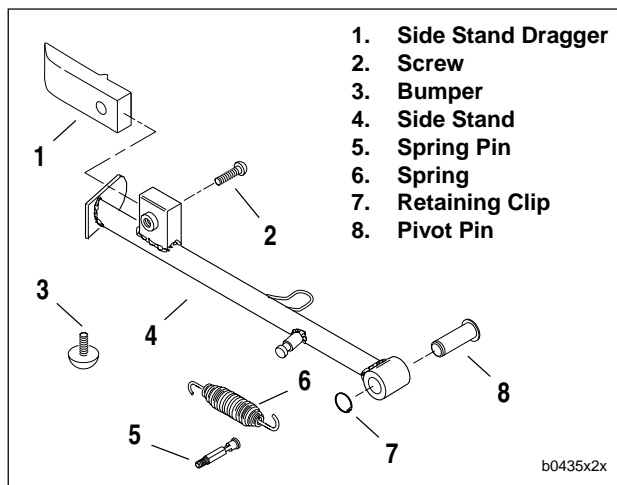

Figure 2-120. Side Stand
2. See Figure 2-120. Remove spring (6) from side stand and spring pin (5).
3. Remove retaining clip (7) and pivot pin (8). Detach side stand from frame.
4. Remove bumper (3) from frame.
5. Remove screw (2) and side stand dragger (1).
1. See Figure 2-120. Attach bumper (3) to frame.
2. Attach side stand dragger (1) to side stand with screw (2).
3. Apply LOCTITE ANTI-SEIZE to pivot pin (8). Install side stand using pivot pin (8) and retaining clip (7). Do not crush side stand switch during installation.
4. Connect spring (6) to side stand and spring pin (5).